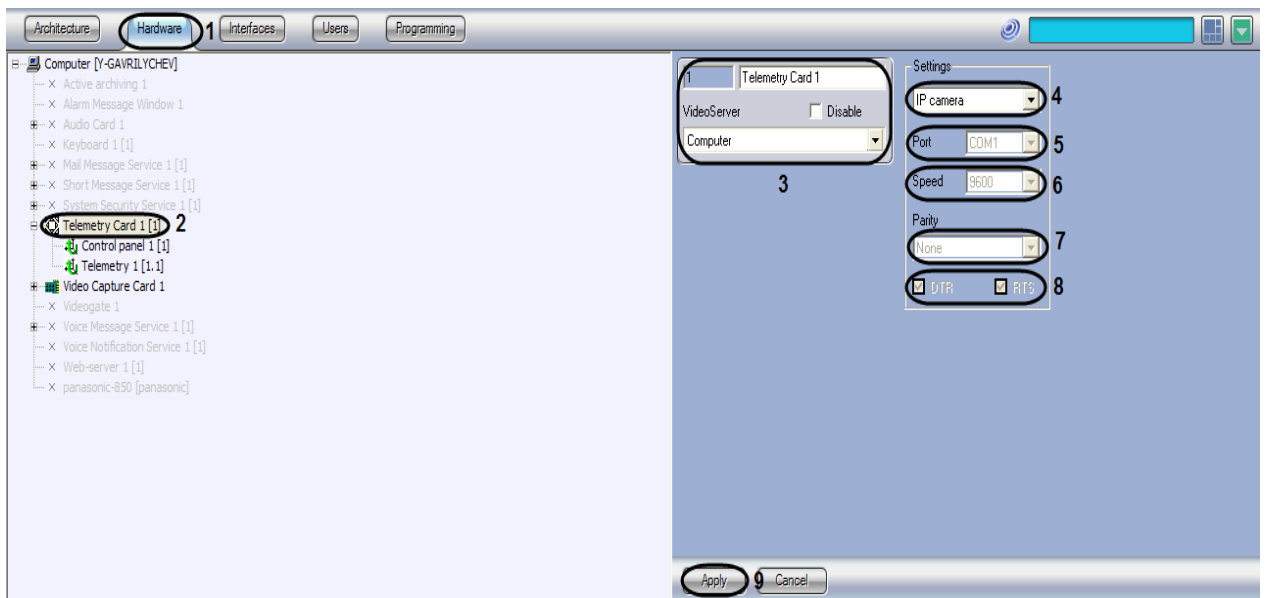

Figure 3.4-4 The setting panel of the Telemetry card object
1. Go to the **Hardware** tab in the **System settings** dialog box (Figure 3.4-4, 1).
2. Create the **Telemetry card** system object under the **Computer** object or select the corresponding object in the object tree on the **Hardware** tab in the **System settings** dialog box (Figure 3.4-4, 2).
3. When the **Telemetry card** object is created, enter the ID, the name of the object and select **Server** to the COM port of which the PTZ device is connected (Figure 3.4-4, 3).
4. Select the protocol of data exchange with PTZ device from the list. The data exchange protocol names in this list correspond to the PTZ types (Figure 3.4-4, 4).
5. Select the serial port (COM) number from the **Port** list (Figure 3.4-4, 5).
6. If it is necessary change the data exchange speed (Figure 3.4-4, 6).
7. If it is necessary change the parity check parameters for the data exchange (Figure 3.4-4, 7).
8. If PTZ devices are passive (i.e. with no independent power supply), the power supply of the PTZ devices must be activated via the DTR or RTS outputs of the COM port by setting the **DTR** or **RTS** check boxes (Figure 3.4-4, 8).
9. To save the changes click **Apply** (Figure 3.4-4, 9).